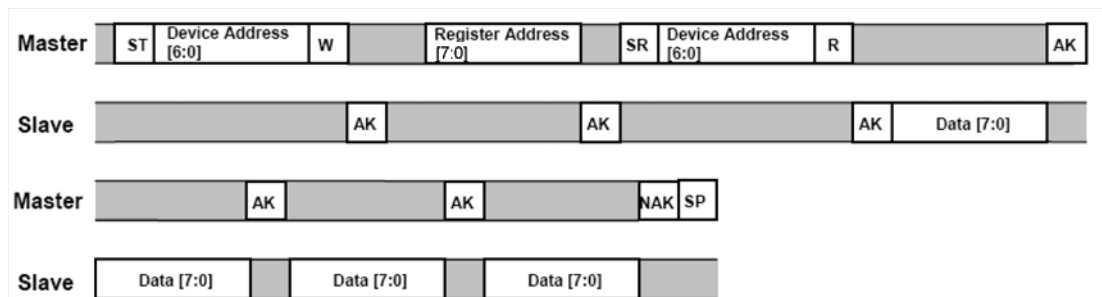

Figure 8. Multiple Bytes Read - The Master is reading multiple sequential registers from the MMA7455L
The MMA7455L automatically increments the received register address commands after a read command is received. Therefore, after following the steps of a single byte read, multiple bytes of data can be read from sequential registers after each MMA7455L acknowledgment (ACK) is received until a NACK is received from the Master followed by a stop condition (SP) signalling an end of transmission. See Figure 8.